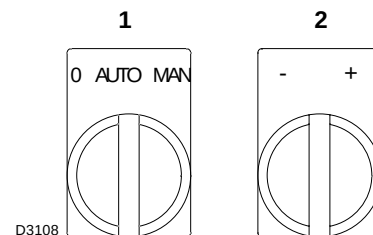
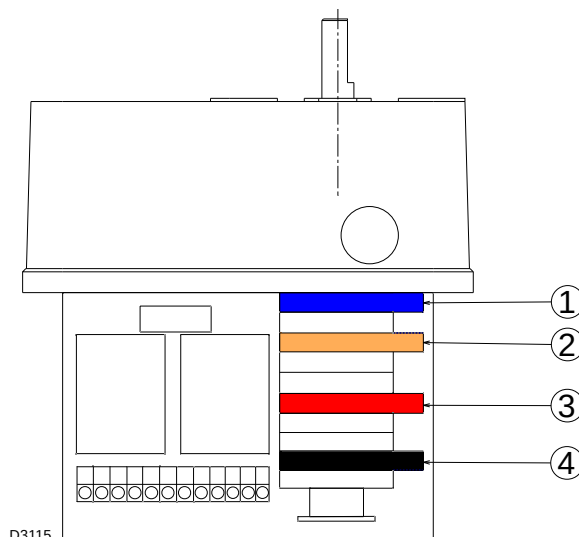

Fig. 25
Fig. 26
Put the selector 1)(Fig. 25) in position "MAN".
The servomotor (Fig. 26) provides simultaneous adjustment for the air damper, by means of the adjustable profile cam and the gas butterfly valve.
Turn the selector 2)(Fig. 25) "output reduction", and keep it turned to "-" until the servomotor has closed the air damper and the gas butterfly valve at 35 (adjustment made in the factory).
- If it is necessary to reduce it, reduce slightly the angle of cam 2) (Fig. 26) with small, regular movements, i.e. bring it from an angle of 35° to 33° - 31°....
- If you need to increase it, rotate the "power increase" selector 2)(Fig. 25) (open the gas butterfly valve by 10-15), and increase the cam angle 2)(Fig. 26) with a series of small movements - i.e. move from angle 35° to 37° - 39°....
The passage from one position to the next one is obtained by pressing the selector 2)(Fig. 25) on the symbol (+) or (-).
Fan motor starts up, servomotor starts up, the pre-purging phase starts. The servomotor rotates to the right by 125, i.e. until the contact intervenes on the cam 3)(Fig. 26 on page 27).
- 63s: The servomotor rotates towards the left until the angle set on the cam 3)(Fig. 26 on page 27).
- The burner locks out when the heat request is less than the heat supplied by the burner at MIN output, (section G-H). The TL thermostat/pressure switch opens, and the servomotor returns to angle 0 limited by the contact of the cam 2)(Fig. 26 on page 27).